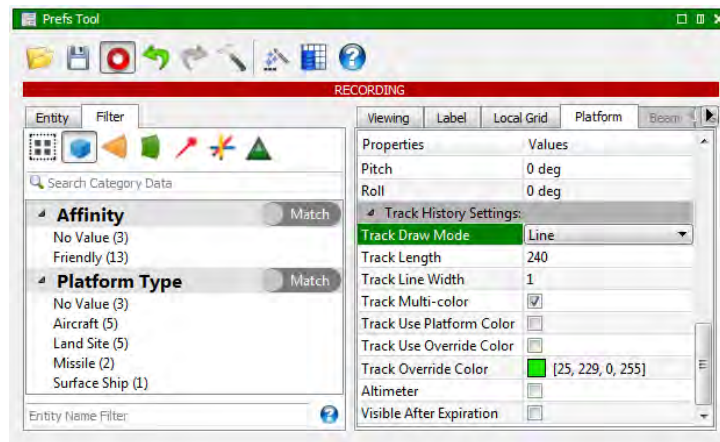

Figure 5.16: Preference Rules for Platform Track Line
7. Change the **Track Length** value to **240**. The value represents a platform's history trail in seconds. See Figure 5.16 for reference.
7. Click **Use Override Color** checkbox. See Figure 5.16 for reference.